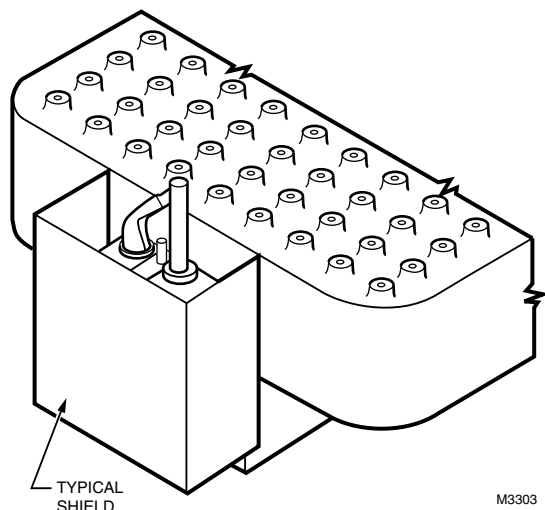

Fig. 9. Proper shielding of pilot flame.
2. If all Location instructions are followed but pilot continues to go out, construct shielding to protect pilot flame from main burner ignition and extinction and drafts. See Fig. 9.